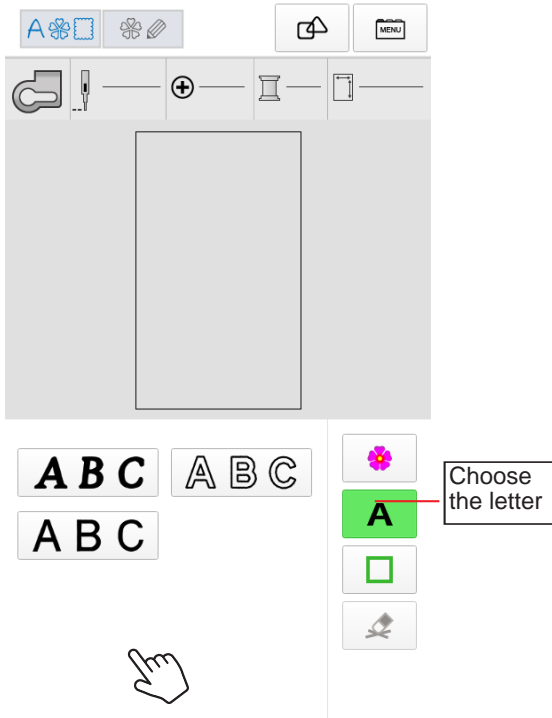

Figure 9
- (1) Click "A" to enter the font selection interface as FIG. 9.